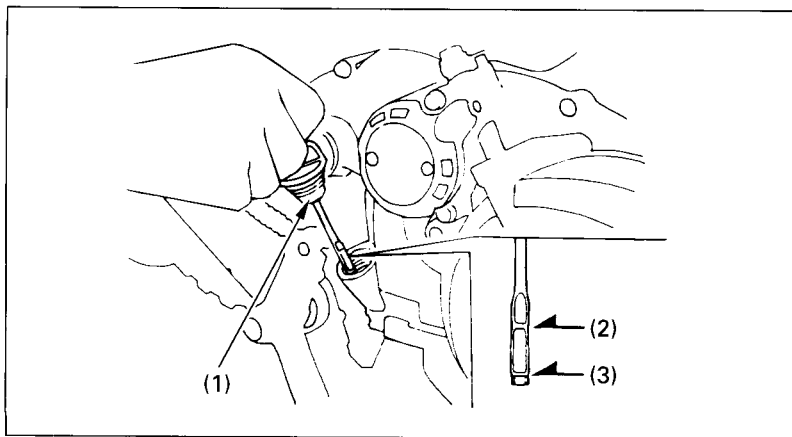

Fig. 4-10 (1) Oil filler cap/dipstick (3) Lower level mark
4. After a few minutes, remove the oil filler cap/dipstick (1) (Fig. 4-10) from the right crankcase cover and wipe it clean.
5. Insert the dipstick without screwing it in, then remove the dipstick and check the oil level. The oil level should be between the upper level mark (2) and the lower level mark (3) on the dipstick.
1. With the FOURTRAX on level ground, remove the oil filler cap/dipstick from the right crankcase cover (Fig. 4-10).